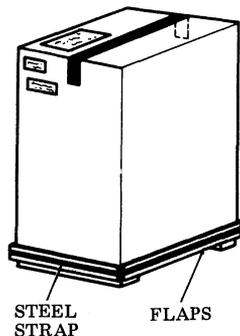

Fig. 11—Forms Access Printer Cabinet Carton
3.12 Remove steel strap from bottom of carton. Fold carton flaps outward (Fig. 11).